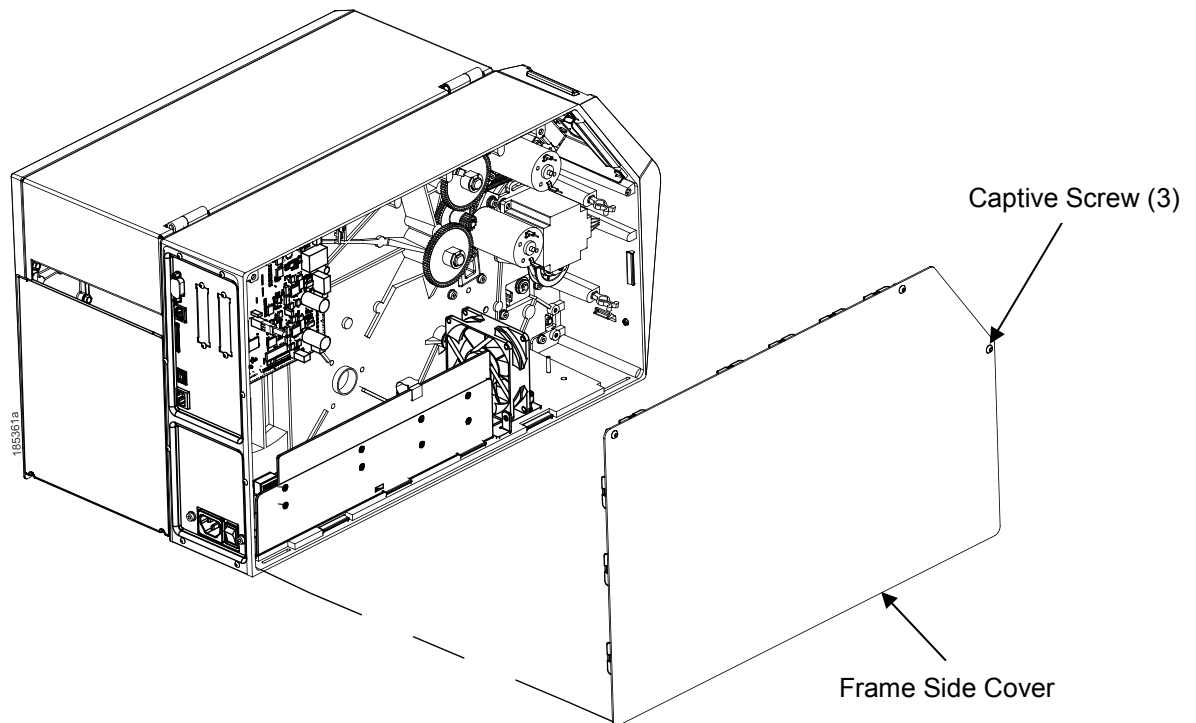

Figure 9 Removing the Frame Side Cover (T8)
4. Tighten the hardware, see Figure 2 (Page 15) for T6000 or Figure 9 (Page 20) for T8000.